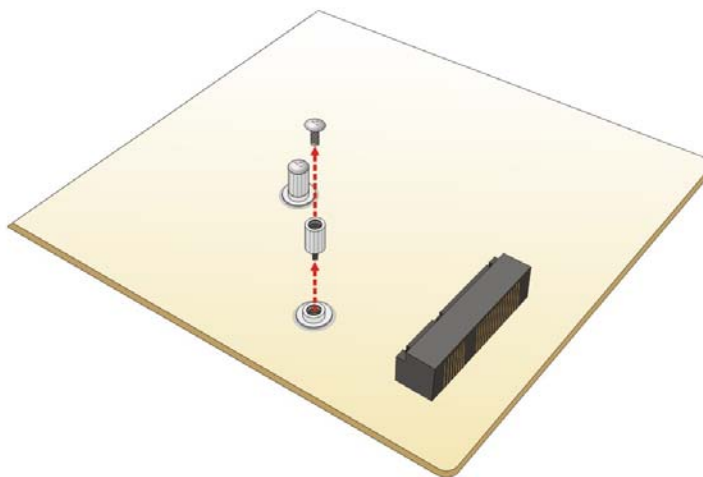

Figure 3-8: Removing the Screw and Standoff for Half-size PCIe Mini Card
Step 3: Remove the retention screw and standoff for a half-size PCIe Mini card. To avoid interference of the board circuit, remove the retention screw and standoff for a half-size PCIe Mini card as shown in **Figure 3-8**.